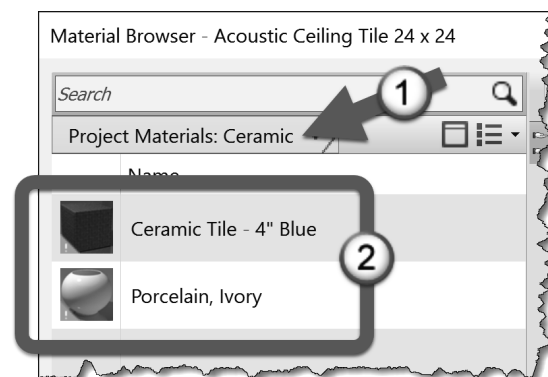

FIGURE 4-4.1 Filter materials by class
2. Filter the material list by **Class Ceramic**; click the down arrow as shown in Figure 4-4.1.